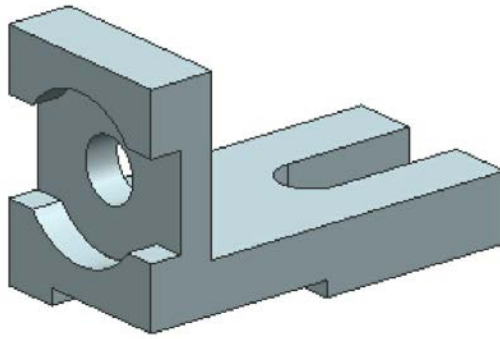

Figure 5-59 Final model for Tutorial 1
1. Similarly, draw a circle of diameter 24 units on the new face that is exposed because of the last cut feature and then extrude the circle by using the **Subtract** option and the **Through All** termination option. The final model for Tutorial 1 is shown in Figure 5-59.